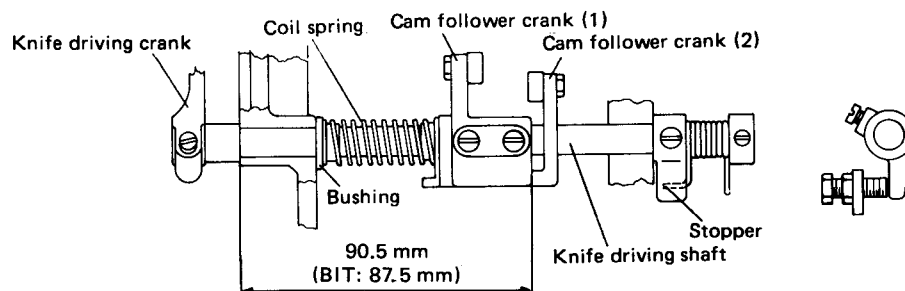
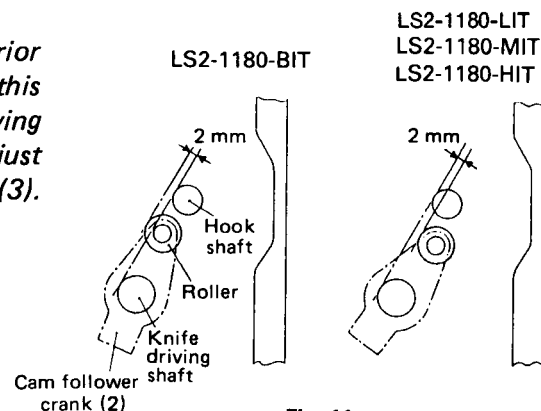
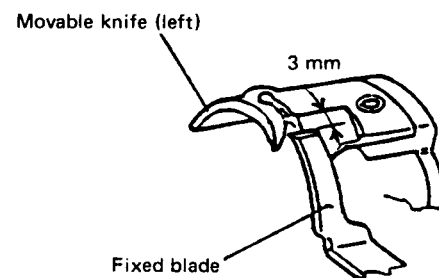

Fig. 7
Fig. 11
Fig. 14
(1) Fig. 7 shows the standard setting position.
(2) During assembling, be sure to pass the knife driving shaft through the knife driving crank first.
(3) Fix the cam follower crank (1) to the recess of knife driving shaft at the position shown in Fig. 7.
(4) Fix the stopper to the recess so that the knife driving shaft can rotate smoothly without play in the axial direction.
*Note: The standard position of cam follower crank (2) prior to the operation is shown in Fig. 11. When this position has been changed, for example, by removing the stopper plate, make adjustment with the adjust screw (Fig. 7) and then make adjustment in (1) to (3).*
- ① The standard knife engaging pressure is obtained when the movable knife (left) and fixed blade start making contact with each other at the position shown in Fig. 14.
- ② When cutting action is poor especially because of thick thread, a slight increase of the engagement pressure produces an effect.
- ③ To adjust the engagement pressure, loosen the lock nut B in Fig. 11 and adjust with the adjust screw A.